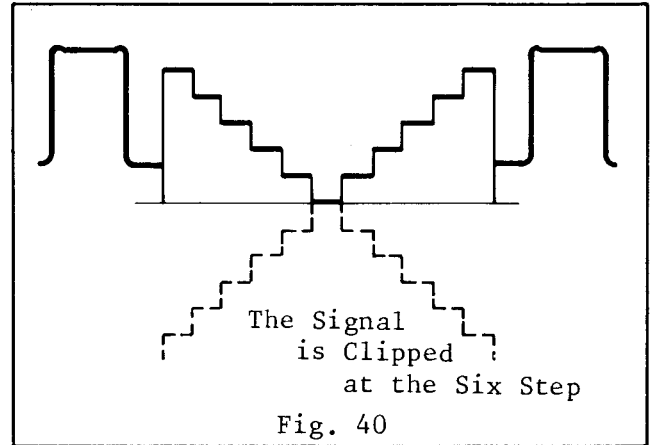

Fig. 40
3. Adjust the gamma reference voltage control, VR307, so that the signal is clipped at the six step from the bottom as shown in Fig. 40.